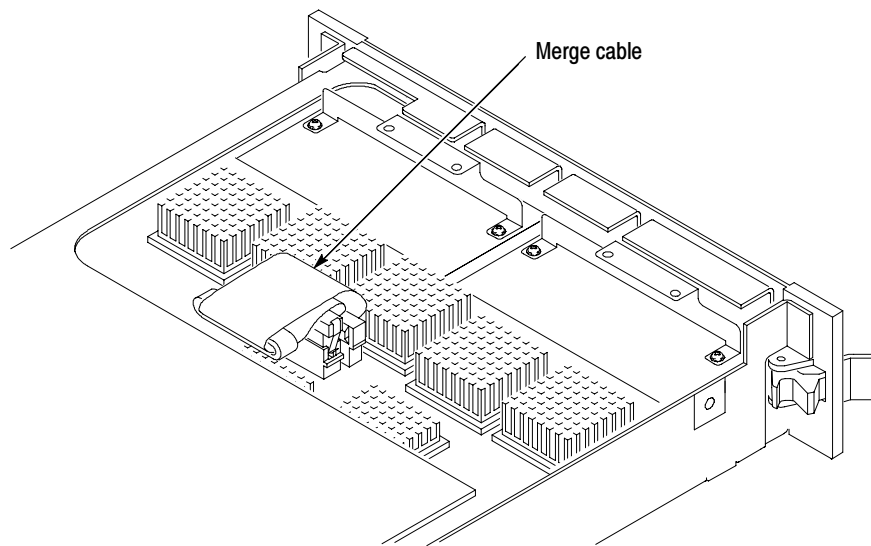

Figure 31: Positioning the merge cable before installing the cover
5. Position the merge cable as shown in Figure 31.